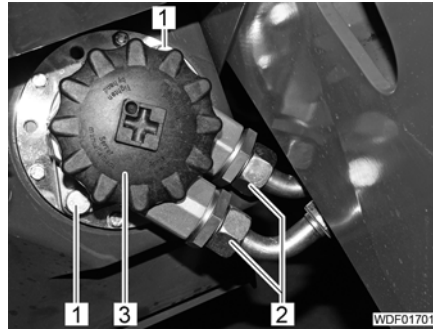

Fig. 330 Return filter
- Unscrew and seal 2 hydraulic lines (Fig. 330,2).
- Unscrew 2 bolts (Fig. 330,1).
- Pull return filter (Fig. 330,3) upwards out of the hydraulic oil tank.
- Screw in 2 bolts (Fig. 330,1) with spring washers and tighten.
- Screw hydraulic lines (Fig. 330,2) to the connections on the return filter (Fig. 330,3) and tighten.